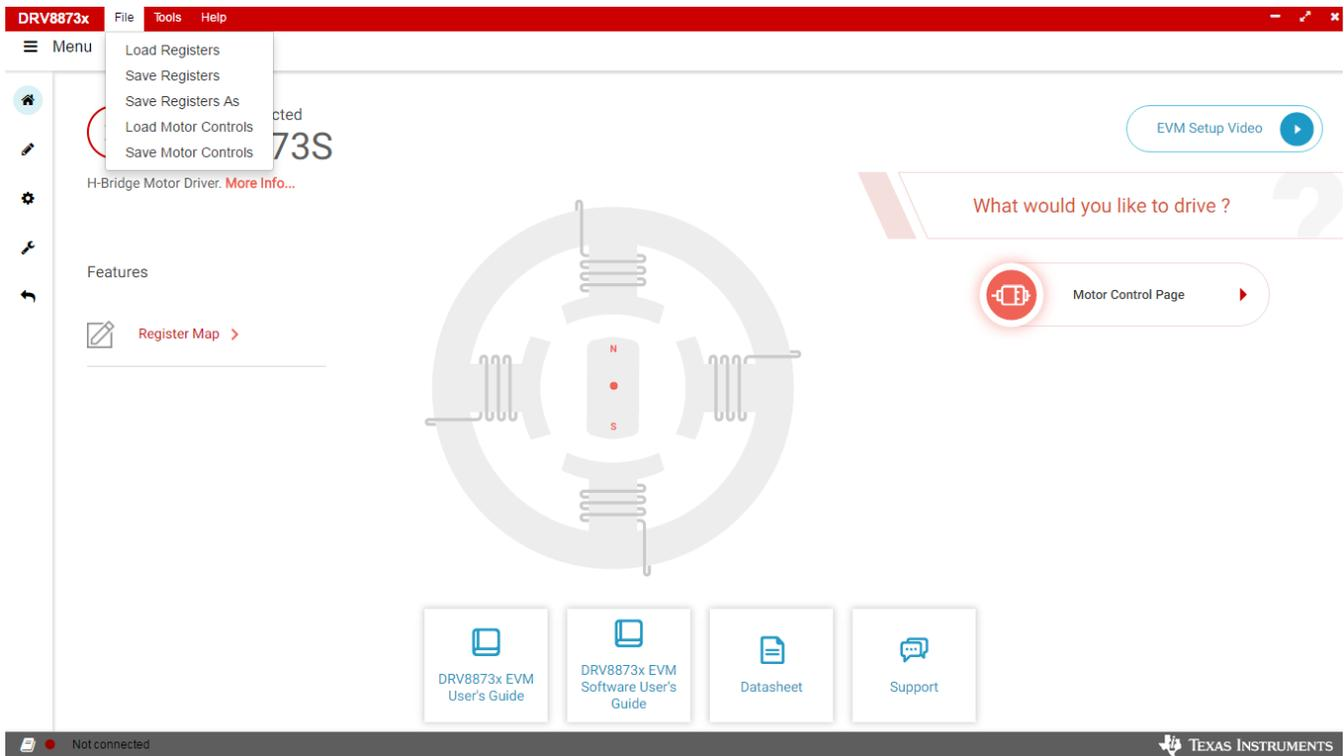

Figure 8. DRV8873x EVM GUI - (File Toolbar Menu)
Step 14. The following toolbar options are available on the top of the GUI as shown in Figure 8: